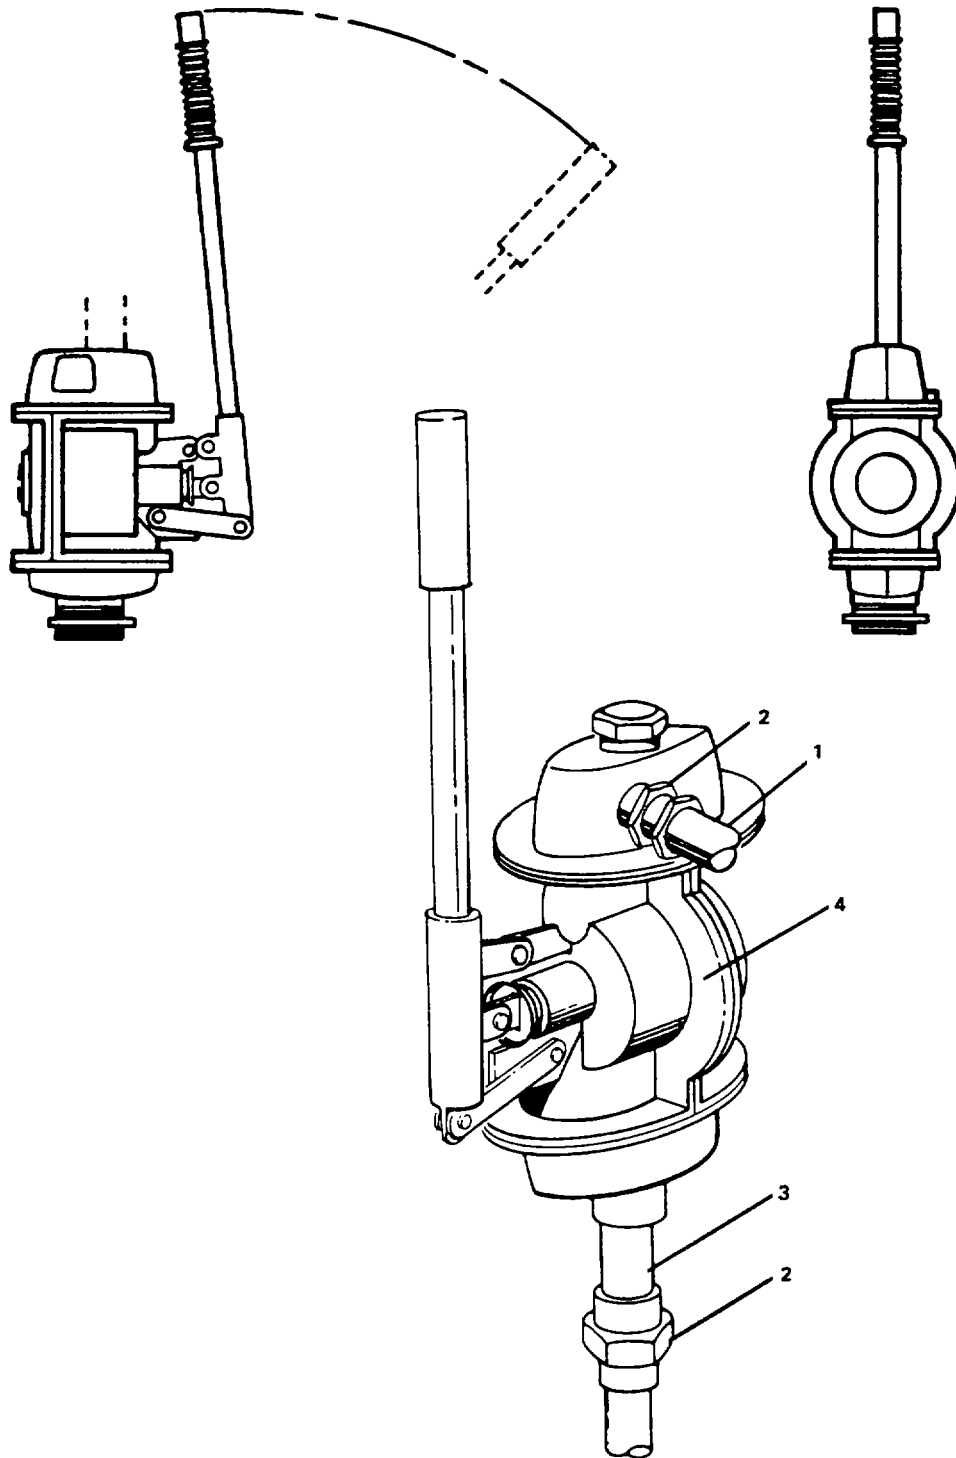

Figure 2-106. Replace Hand Pump.
- a. Disconnect discharge line (1, Figure 2-106) and suction line (3) at unions (2).
- b. Remove hand pump (4) .
- b. Connect discharge line (1) and suction line (3) at unions (2). Tighten unions (2).